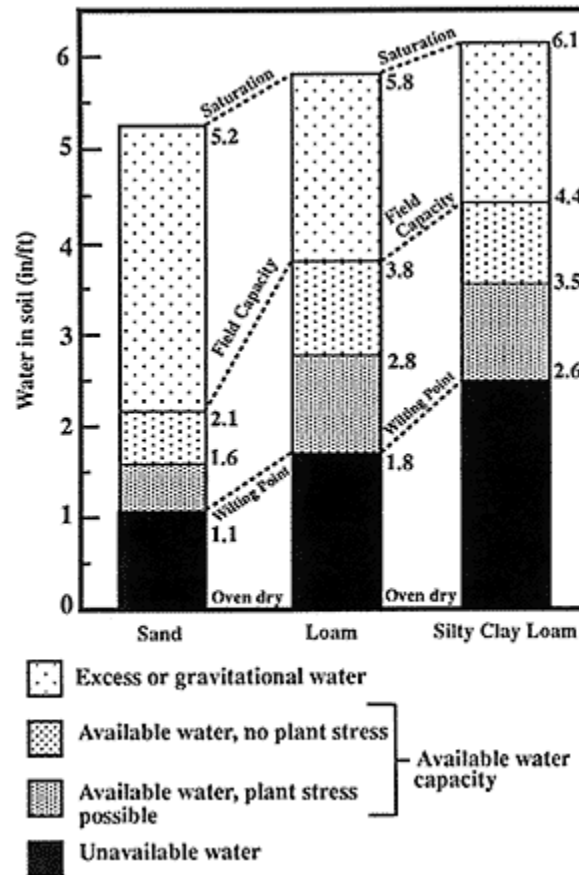

Figure 4. Soil water levels within three soil types.
Soil water is classified into three categories: (1) excess soil water or gravitational water, (2) available soil water, and (3) unavailable soil water. See *Figure 4* for a schematic representation of soil water.